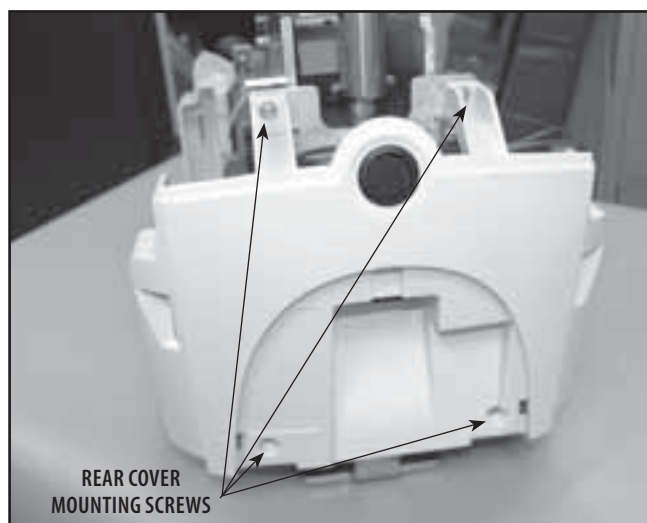

FIGURE 6.8
4. Using the 3/32 in Allen Wrench, remove the four Rear Cover Mounting Screws. See Figure 6.8.
- a. Secure Rear Cover to chassis with four Rear Cover Mounting Screws. See Figure 6.8.
- b. Secure Rear Cover to chassis. See Figure 6.8.